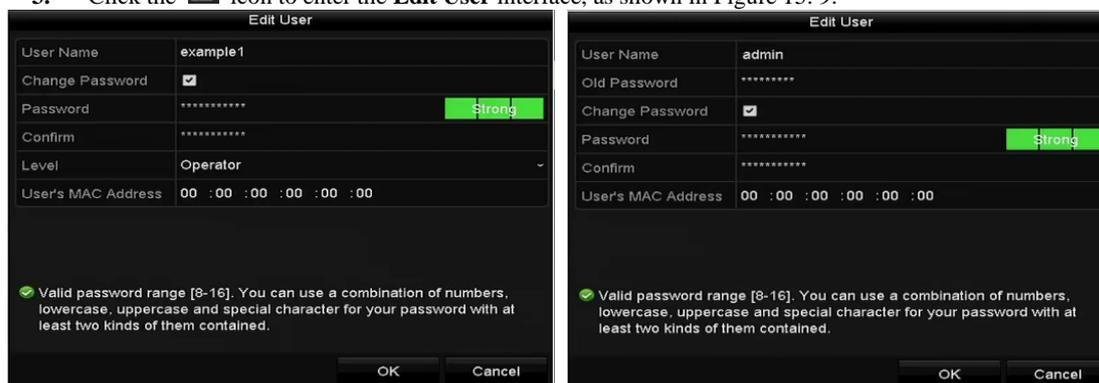

Figure 15. 9 Edit User Interface
3. Click the  icon to enter the **Edit User** interface, as shown in Figure 15. 9.